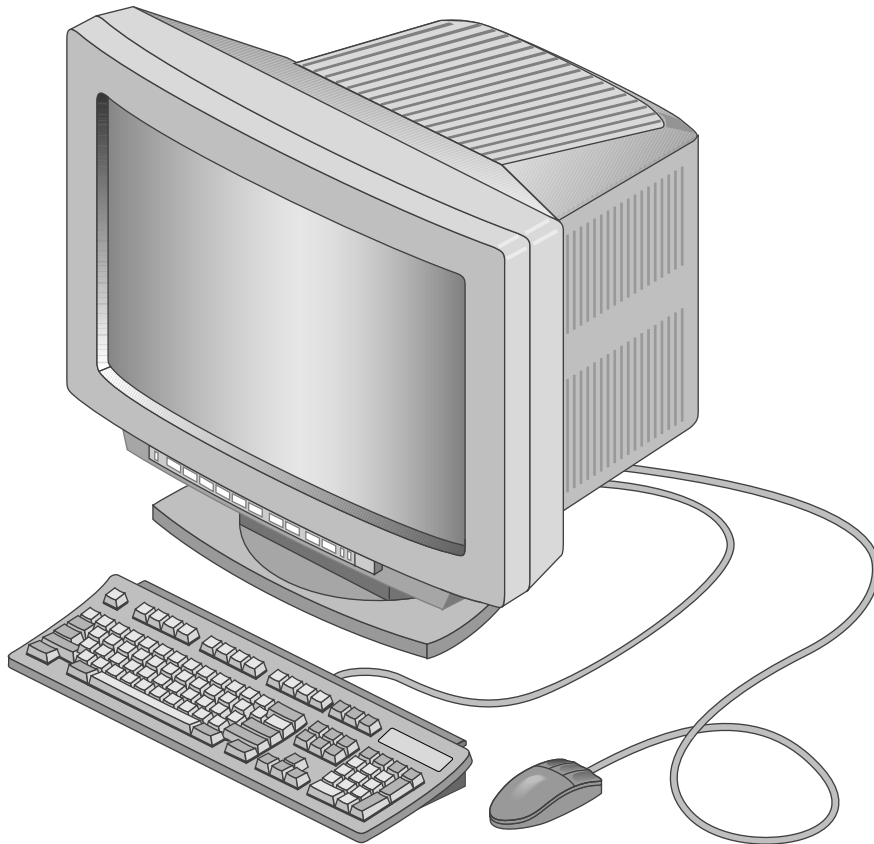

Figure 4-6 SuperWide Monitor
- 13W3-13W3: For use with the Silicon Graphics 24-inch (SuperWide) monitor and other compatible monitors; see Figure 4-6.